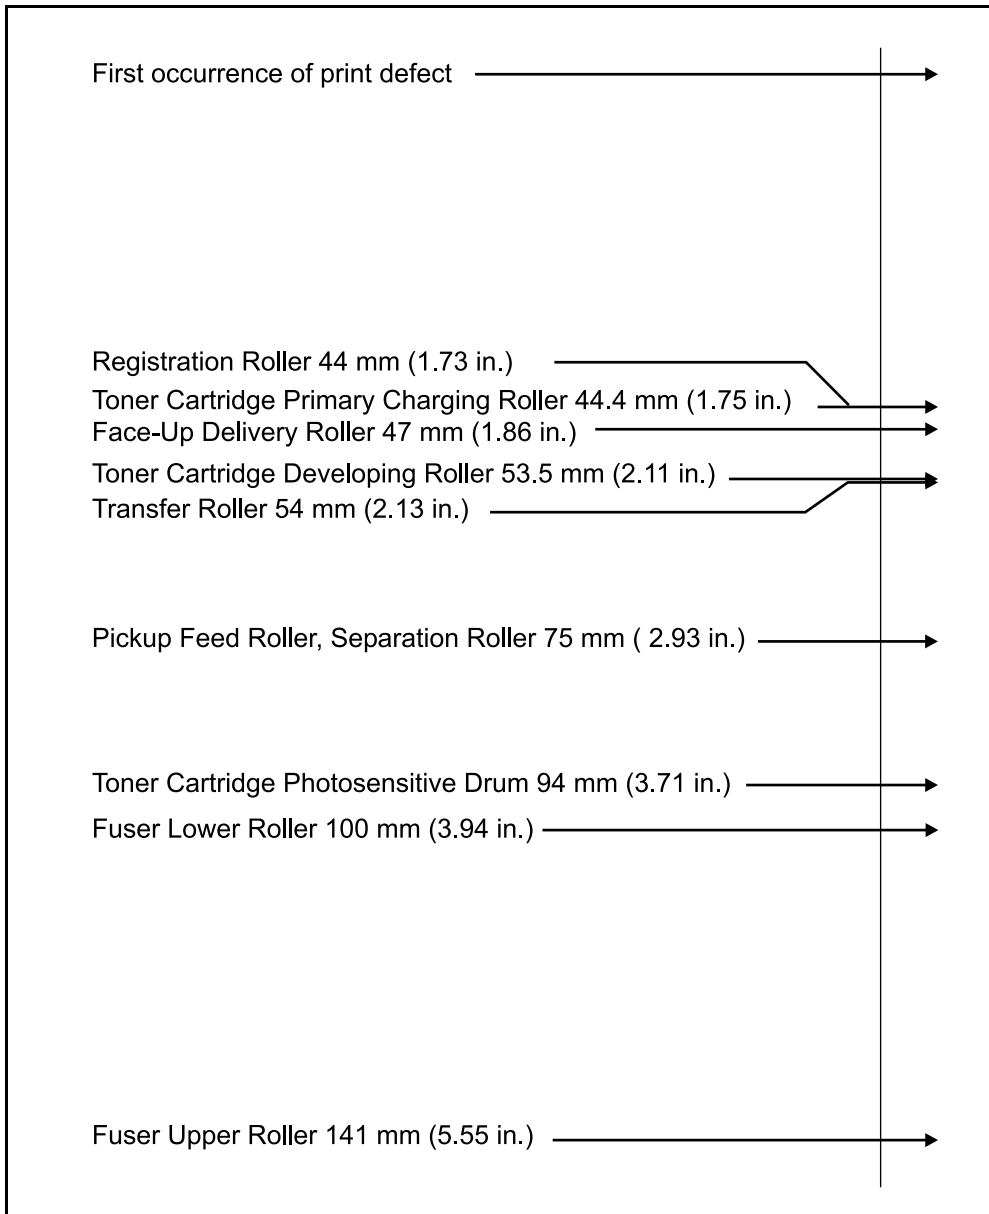

Figure 7-21 Repetitive Defect Ruler
1. Toner cartridge is damaged. If the defect repeats at any of the following intervals and in the direction of paper movement, it is associated with a component inside the toner cartridge. See figure 7-21 on page 677.	Inspect the drum for scratches or damage. Replace the toner cartridge. Use the Repetitive Defect Ruler, figure 7-21 on page 677.
Repetitive print defects are usually associated with a specific roller within the printer or the toner cartridge. Use figure 7-21 to isolate the cause of repetitive print defects. Align the first occurrence of the defect with the top of the “ruler” and measure to the next occurrence of the defect to determine the roller in question. When you are certain that your defect pattern matches the pattern of the ruler, replace the indicated roller.